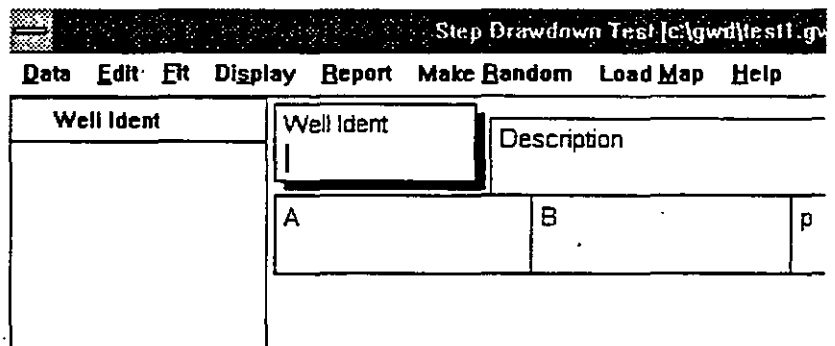

Figure 11-1
As shown in Figure 11-1, the major options on the application's menu bar are the following:
If you are creating a new data base with production or test wells, the left window will be empty, and the number of wells will be zero. This is the case as shown in Figure 11-1.
In the **Entry Form** as shown in Figure 11-1 you may input data into two fields: Well Ident and Description. All other fields are used to report results. The coefficients A and B are the coefficients used to fit the drawdown and pumping rate equation (see 11.5).
- 11.3.4. Select Entry Form** You may use the default form as displayed in Figure 11-1, or any form that you may have created following the steps explained in Chapter 3. To change the form: